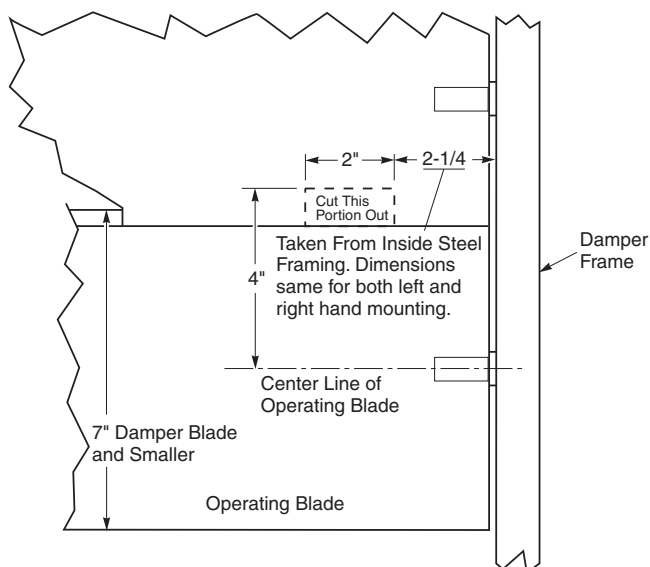
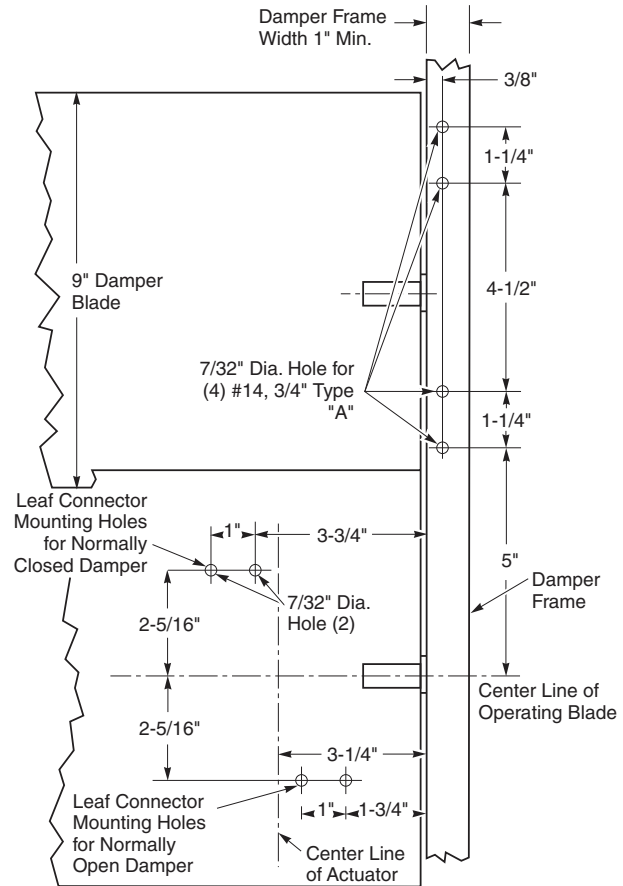
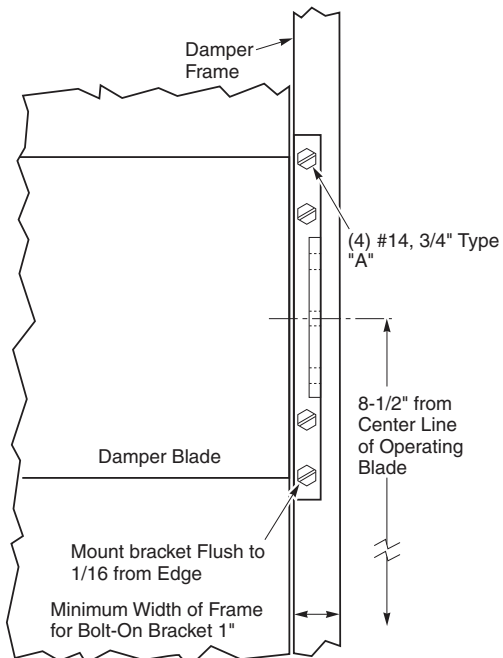

Figure-1 Bracket Mounting for Dampers with Blades 7" or Smaller.
Figure-2 Mounting Dimensions for Bolt-on Bracket, and Leaf Connector.
Figure-3 Typical Bolt-on Bracket Mounting.
Refer to Figure-16 for mounting hole locations and mounted actuator dimensions. Refer to Figure-1, Figure-2, and Figure-3 for preparing the damper for a typical bolt on bracket mounting (AM-532).
1. Drill necessary holes in damper for bolt-on bracket and leaf connector (see Figure-2).
Dampers with blades 7 in. (180 mm) or smaller require notched cut in blade next to operating blade (see Figure-1).
2. Attach bolt-on (using four #14, 3/4 in. hexhead slotted screws) bracket to damper frame (see Figure-3).